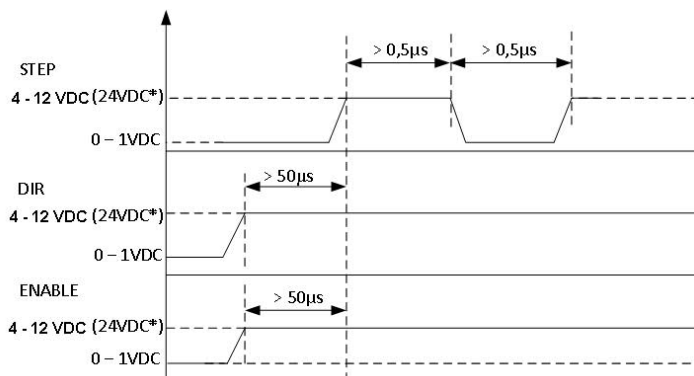

Fig.9. «STEP», «DIR» and «ENABLE» signals order and duration
- **If used pulse position control mode (Step / Dir)**, give a sequence of signals «STEP» (pulse), «DIR» (level) and «ENABLE». High level of the signals – 4..5VDC (24VDC*), low level - 0..1VDC. One step (or microstep) executes as front edge of the voltage pulse at the «STEP» input. Direction switches by changing voltage level at the «DIR» input. The motion is enabled if the signal to «ENABLE» input is given. The signals oscillogram is shown on fig.9.